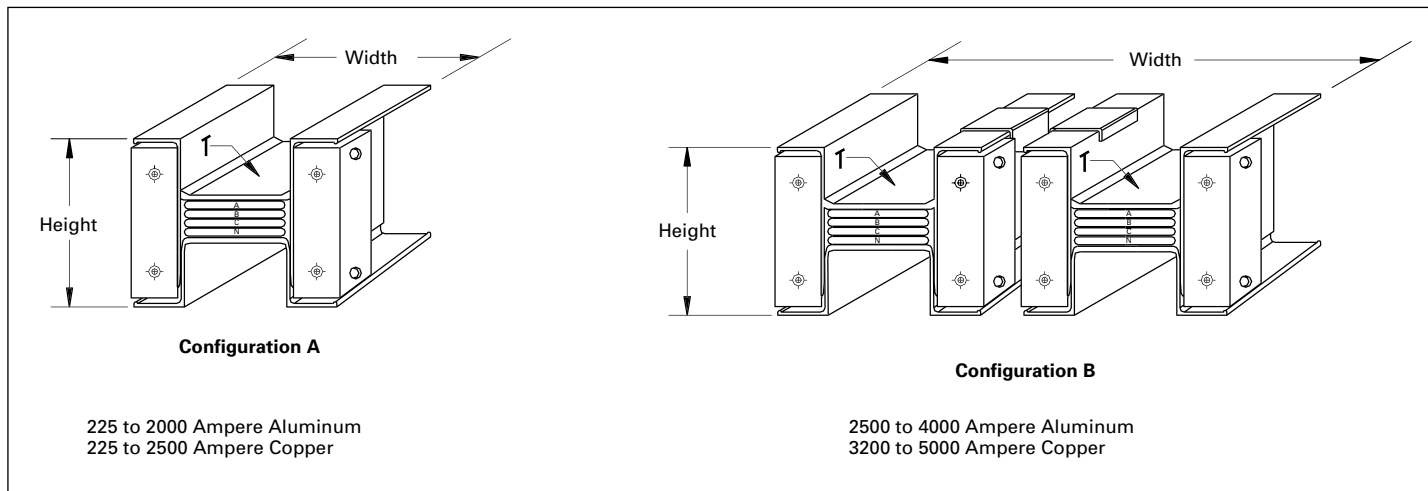

Figure 14. Pow-R-Way III cross-section dimensions
① 100% ground available with same dimensions, which uses 50% internal ground and 50% internal housing ground.
② Refer to **Figure 14** on **page 12** for configuration A and B.
① Neutral bar is 0.50 (12.7) x width shown.
② 100% ground available with same dimensions, which uses 50% internal ground and 50% integral housing ground.
③ Refer to Figure 14 for Configuration A and B.